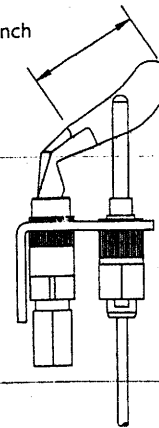

Figure 4
7. Allow the heater to operate for at least 5 minutes, then observe main burner flames. A hard blue flame with no lifting and no yellow tipping is normal. See Figure 4. If air shutter adjustment is necessary, close air shutter gradually until yellow tipping appears, then open just enough to eliminate the yellow tipping. **Wear gloves when handling the air shutters.**